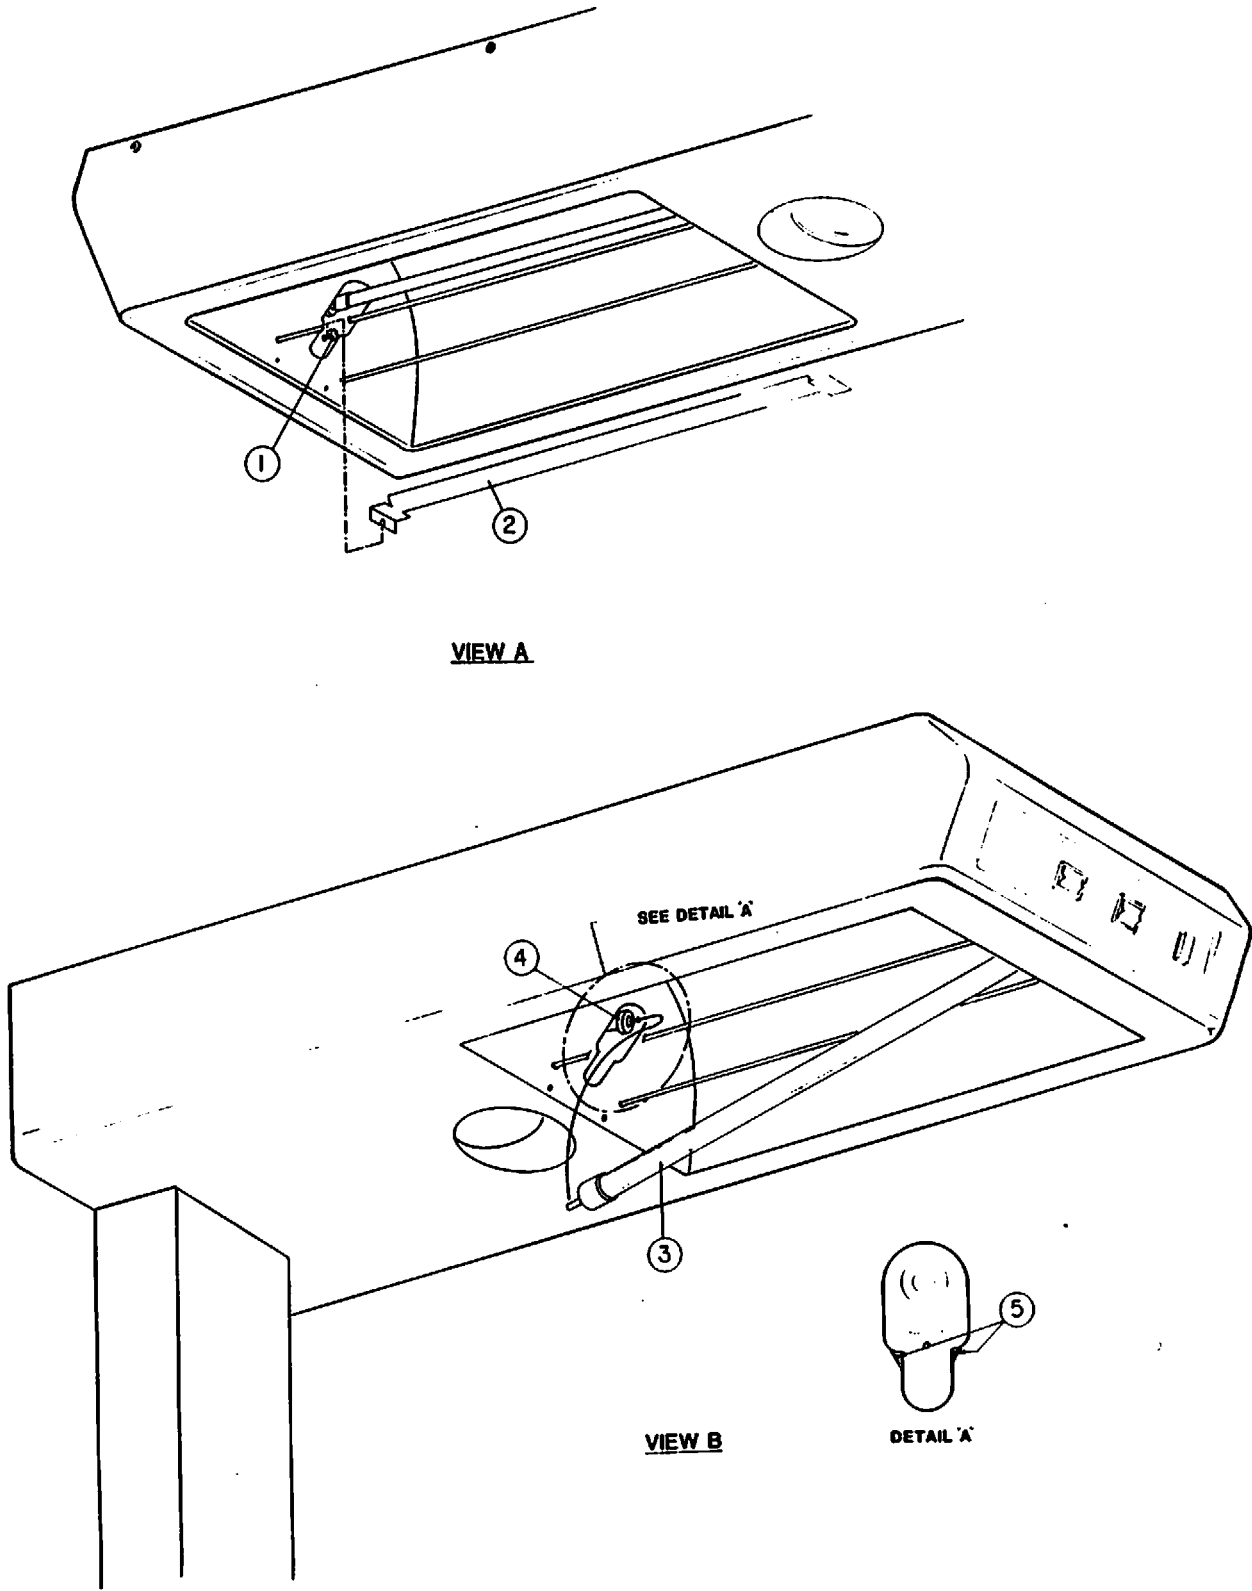

FIGURE 5.4 QUARTZ HEATING ELEMENT REMOVAL AND REPLACEMENT
1. REFER TO FIGURE 5.4, view A, and loosen (do not remove) the mounting screw (1) that secures the curved reflector (2) to the heater support bracket.
3. REFER TO FIGURE 5.4, view B. Grasp the heating element (3) with both hands and push firmly toward the front of the Warmer Module to release the rear end of the heating element from the rear spring-loaded connector (4). Maintain this pressure while lowering the rear end of the heating element until it is removed from this parabolic reflector. Carefully withdraw the front end of the heating element from the front end spring-loaded connector; remove the heating element.
- When installing the replacement heater element, it is important that it be inserted at an angle as shown in Figure 5.4, view B. Insert one end and seat it firmly into the spring-loaded connector and then, in one motion, raise the other end and insert it into the spring-loaded connector at the opposite end.
- When installing the replacement heating element, it may be necessary to bend the tabs (5) in the connector opening slightly to provide adequate clearance in the connector opening.